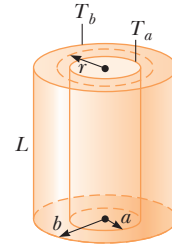

Figure P20.84
- 84.** (a) The inside of a hollow cylinder is maintained at a temperature  $T_a$ , and the outside is at a lower temperature,  $T_b$  (Fig. P20.84). The wall of the cylinder has a thermal conductivity  $k$ . Ignoring end effects, show that the rate of energy conduction from the inner surface to the outer surface in the radial direction is